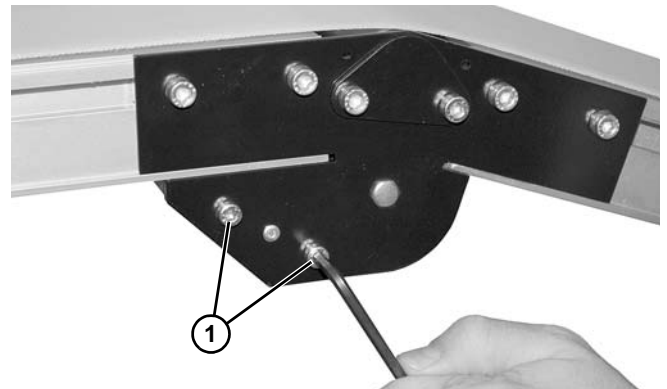

**Figure 60**
5. Remove screws (**Figure 60, item 1**) and remove guard (**Figure 60, item 2**) on both sides of knuckle.
6. Remove screw (**Figure 60, item 3**) and remove roller bearing assembly (**Figure 60, item 4**) on both sides of knuckle.